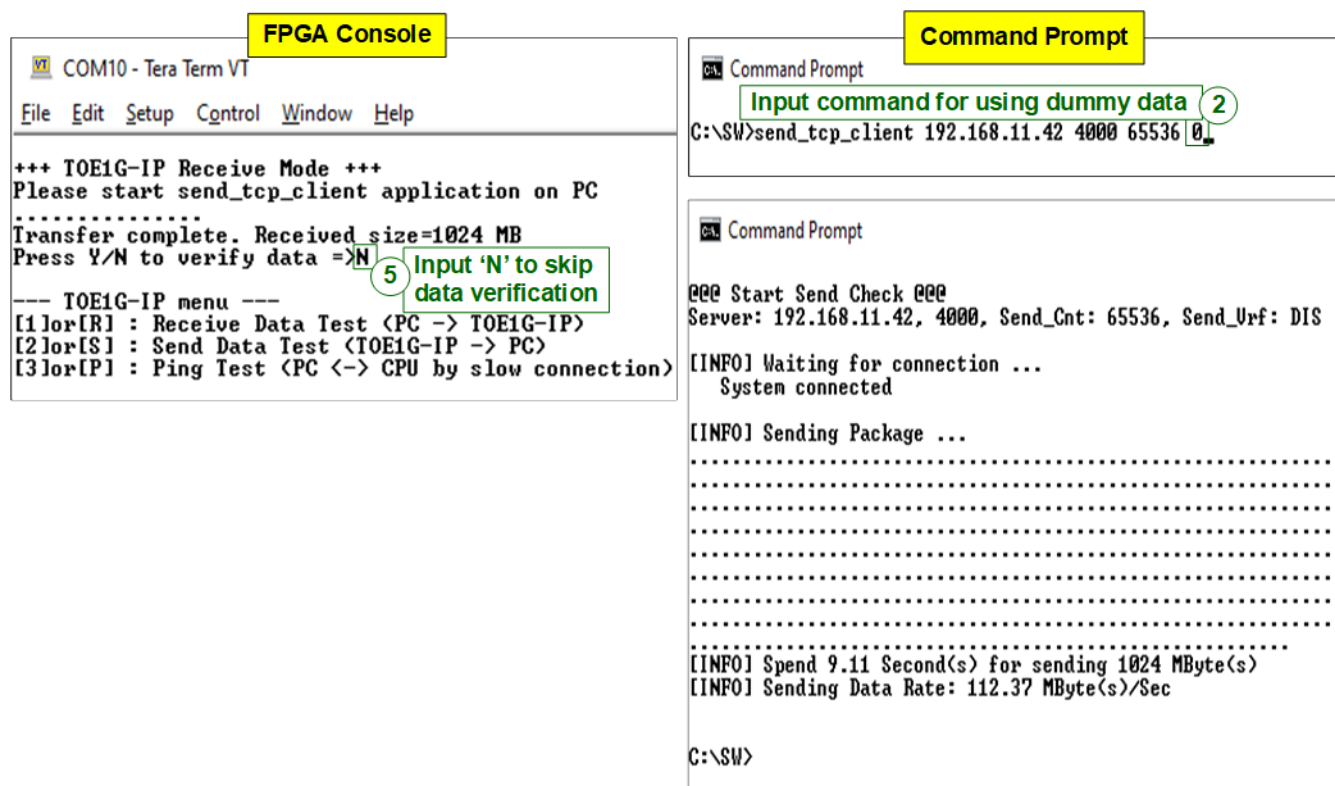

Figure 4-4 Receive data test without data verification
- 5) The Serial console shows the option to verify data or not. If the user enters 'Y', the data verification is initiated. Otherwise, the operation is completed without verifying data (as shown in Figure 4-4).